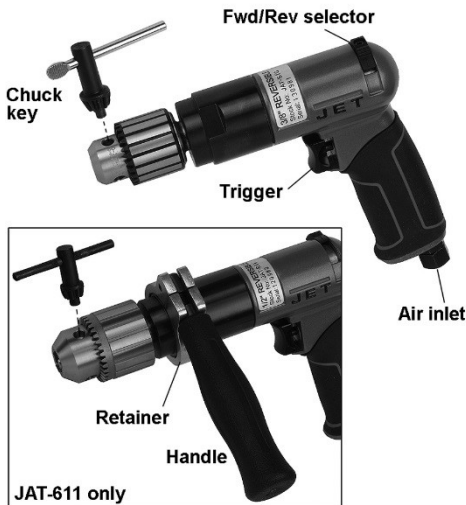

Figure 1
Model JAT-611 only: To install dead handle (Figure 1), rotate handle counterclockwise to loosen retainer; then slide retainer over chuck and onto drill body, and rotate to a convenient angle. Retighten handle to secure.
1. Remove protective cap from air inlet (Figure 1). If an in-line oiler is not being used, add 4 or 5 drops of air tool oil (not included) into the air inlet.